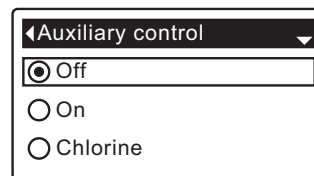

FIG. 83
7. Press the SELECT (O) button to display the Auxiliary control menu (See Figure 83).
8. If the desired option already has a black dot next to it (See Figure 83), go to Step 9. Otherwise, press the DOWN (▼) or UP (▲) buttons to scroll to the desired option, then press SELECT (O) to choose it.